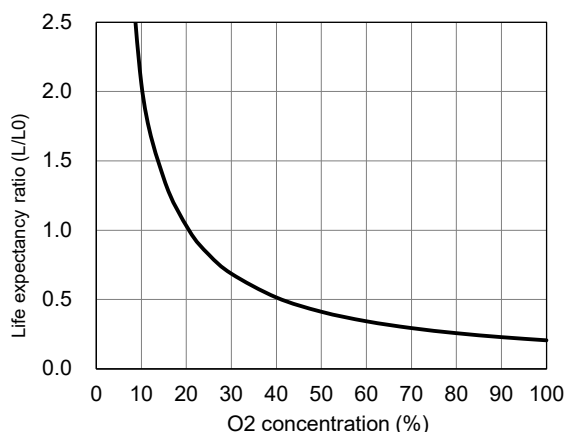

Fig. 7a - Relationship of life expectancy vs. O₂ concentration (L₀ = life at 20.9% O₂)
Figure 7a shows the relationship between life expectancy and O₂ concentration for KE-LF sensors. The Y-axis indicates the ratio of life expectancy in a given O₂ concentration (L) to life expectancy in natural air (L₀). The greater the O₂ concentration, the shorter the life expectancy. The influence of atmospheric pressure on life expectancy is estimated based on the O₂ concentration in a given atmospheric pressure.